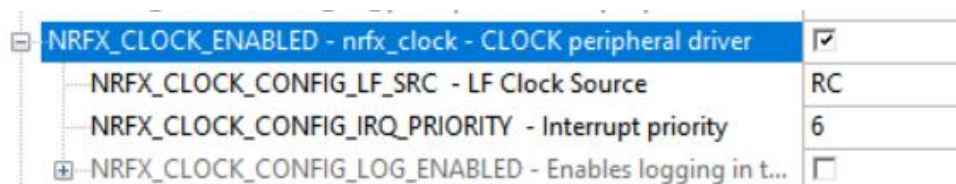

Figure 5.1: NRFX_CLOCK_ENABLED
- Unfold “nRF_Drivers”-> “NRFX_CLOCK_ENABLED”Please modify as shown in Figure 5.1: